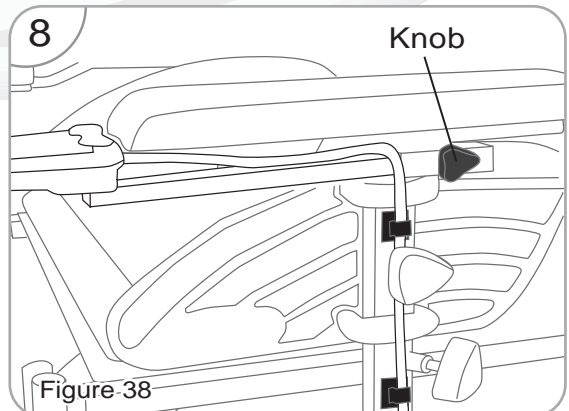

Figure 38
8. By using knob to fix controller's bracket and stick two cable clips to fix lighting controller's cable. (See Fig. 38).